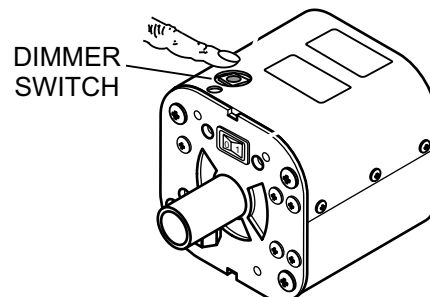

Figure 25. Dimmer Switch
2. Press the dimmer switch lightly (Figure 25). The LED will blink. The lamp should dim to about 75% brightness.